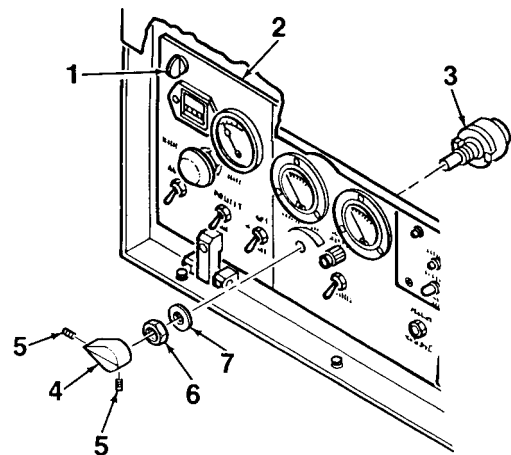

Figure 4-14. VOLTAGE ADJUST Rheostat
1. Remove knob (4, Figure 4-14) from shaft of VOLTAGE ADJUST rheostat (3) by loosening setscrews (5).
2. Turn quarter-turn fasteners (1) to unlock and open control panel (2).
3. Remove rheostat (3) from control panel (2) by removing attaching nut (6) and lockwasher (7).
1. Connect electrical wiring to the rear of VOLTAGE ADJUST rheostat (3, Figure 4-14) and secure using soldering iron. Cover connection with heat shrink tubing and secure using heat gun.
2. Mate rheostat (3) to rear of control panel (2) and install using lockwasher (7) and nut (6).
3. Close control panel (2) and lock in place using quarter-turn fasteners (1).
4. Secure knob (4) to shaft of rheostat (3) by tightening setscrews (5).